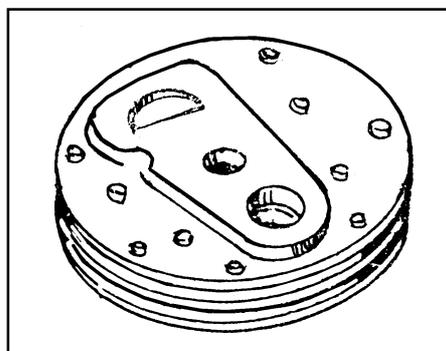

Fig.9-57
- Remove the cooler from the header by removing the set bolt and special washer. Fig.9-57